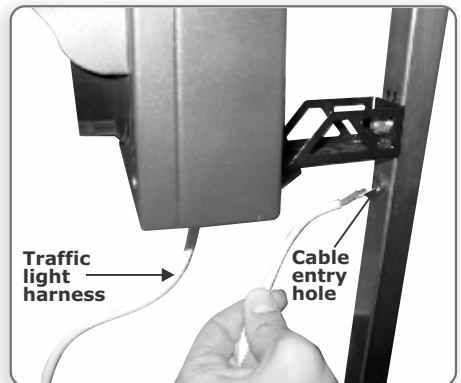

FIGURE 12
4. Route the traffic light harness through the cable entry hole and down through the post so that it protrudes from the bottom as shown in Figure 12.